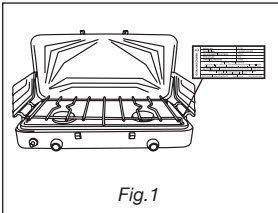

Fig.1
- DO NOT use any gas other than that which specified on the tech data label attached (Fig.1). LPG